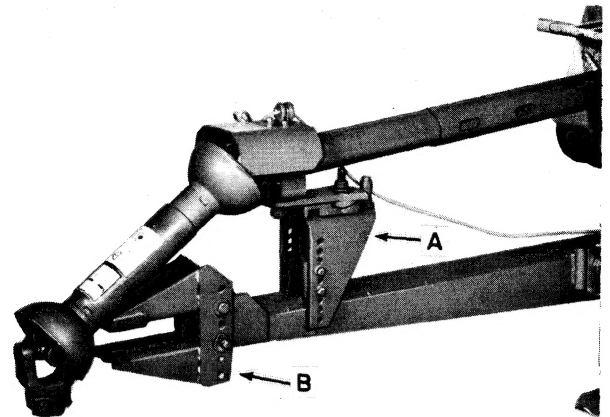
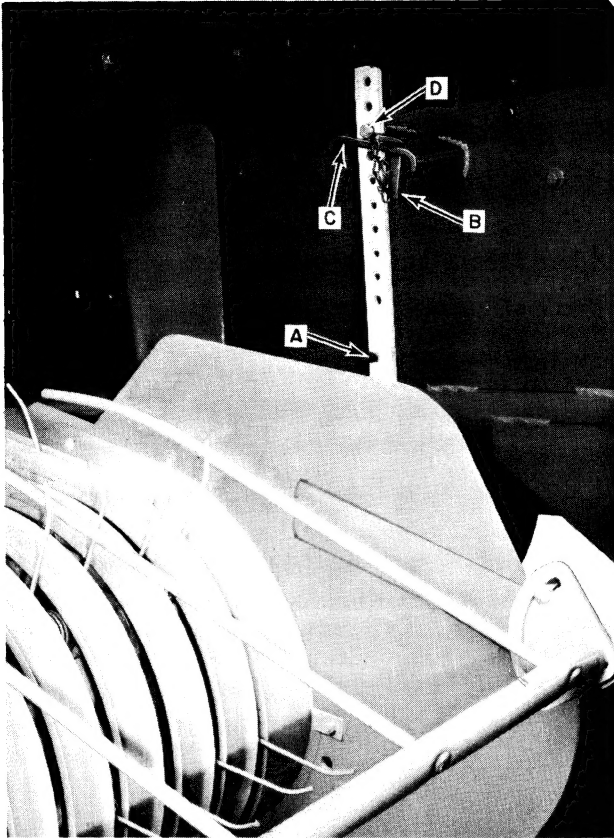

FIGURE 3
FIGURE 4
1. Adjust the length of the tractor draw bar so the horizontal distance between the end of the tractor PTO spline and the hitch pin is 14" (360 mm), as shown in Figure 3, and at least 4" (102 mm) past the outside radius of the tractor tire. ASAE further specifies that the distance from the center of the PTO spline to the top of the draw bar should be 6"-12" (152-305 mm) — 8" (203 mm) is recommended. The top of the rear end of the draw bar should be 13"-17" (330-432 mm) from the ground. On some tractors, a hitch adapter plate must be used to obtain the correct distance while on others, which are not ASAE standard, it may be necessary to install a PTO conversion kit.
4. Adjust the baler hitch, B, Figure 3, up or down as required so the bale chamber is level. Torque the hitch bolts to 170 ft. lbs. (320 N·m) torque.
7. Adjust the PTO support, A, Figure 3, up or down so front section of PTO drive line is level. Move bolt, D, Figure 4, as required after adjusting PTO support.
Raise the pick-up until the notch, A, Figure 4, in the lift strap can be engaged on bracket, C. Insert the safety pin, B, in the slot in front of the lift strap to prevent the strap from being disengaged during transport.
Bolt, D, Figure 4, limits the downward travel of the pick-up while baling.